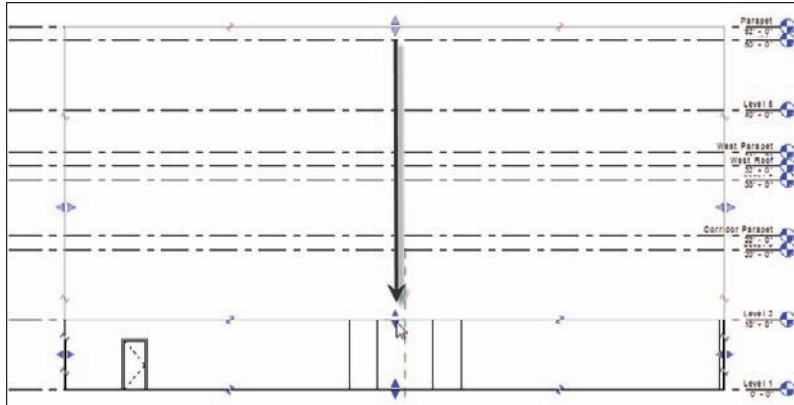

FIGURE 3.78 Stretching the grip down to crop the view
9. Notice the crop region extends all the way up to the parapet. Select the crop region and drag the top down to Level 2, as shown in Figure 3.78.